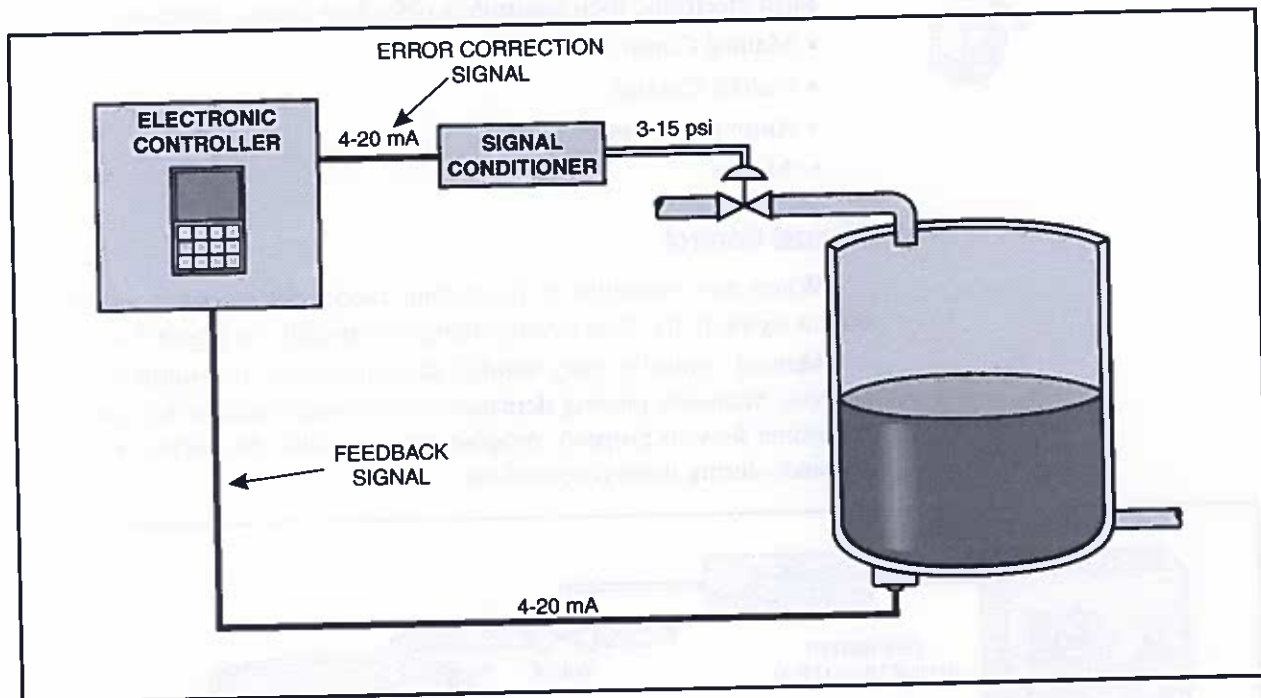

Figure 4. Basic Signal Flow for an Electronic Controller
Figure 4 shows an example of the basic signal flow to and from an electronic controller. Like a pneumatic controller, electronic controllers correct disturbances according to the setpoint (SP) and the input signal. However, the signals are electrical.